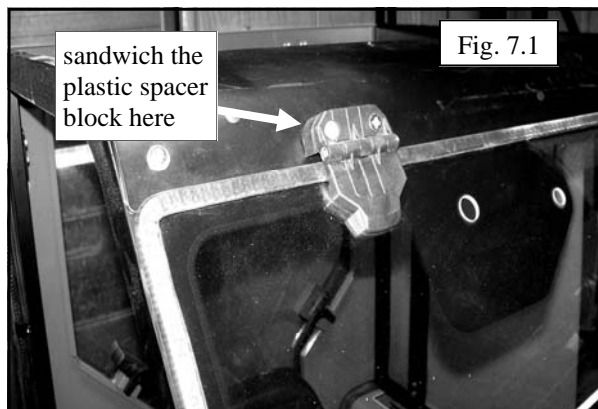

Fig. 6.1
6.1 See fig. 6.1. With assistance, install the windshield support to the top front corner of the side frames oriented as shown with the 90 degree bent flanges on the bottom. In the lower holes only, use the following hardware per side frame: one 5/16-18 x 3/4" long button head bolt, 2 steel washers, one nylon washer, and one locknut. Refer to the helpful hints section on page two for the proper placement of the nylon washer. Note: upper holes will get hardware once the roof is installed.